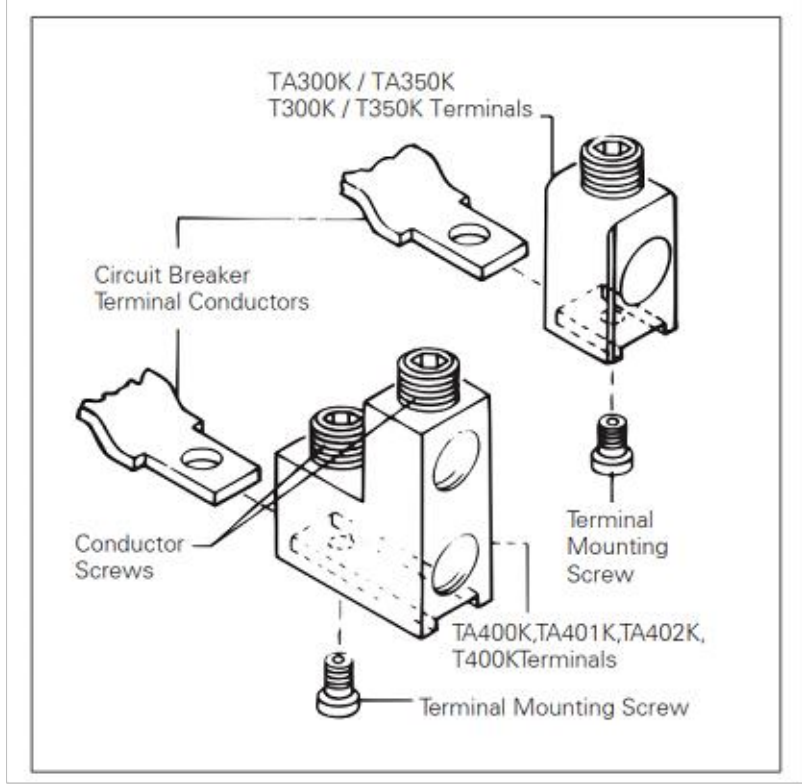

Figure 2-1
- ii. Install each terminal at bottom end of breaker as shown in Figure 2-1. **Secure the terminals to the circuit breaker using 7/32-inch socket wrench, and torque to 6-8 lb-ft (8-11 Nm).** After mounting the circuit breaker and before installation of the conductors, the terminal mounting screw can be checked or retightened through the terminal when the conductor screw is removed.